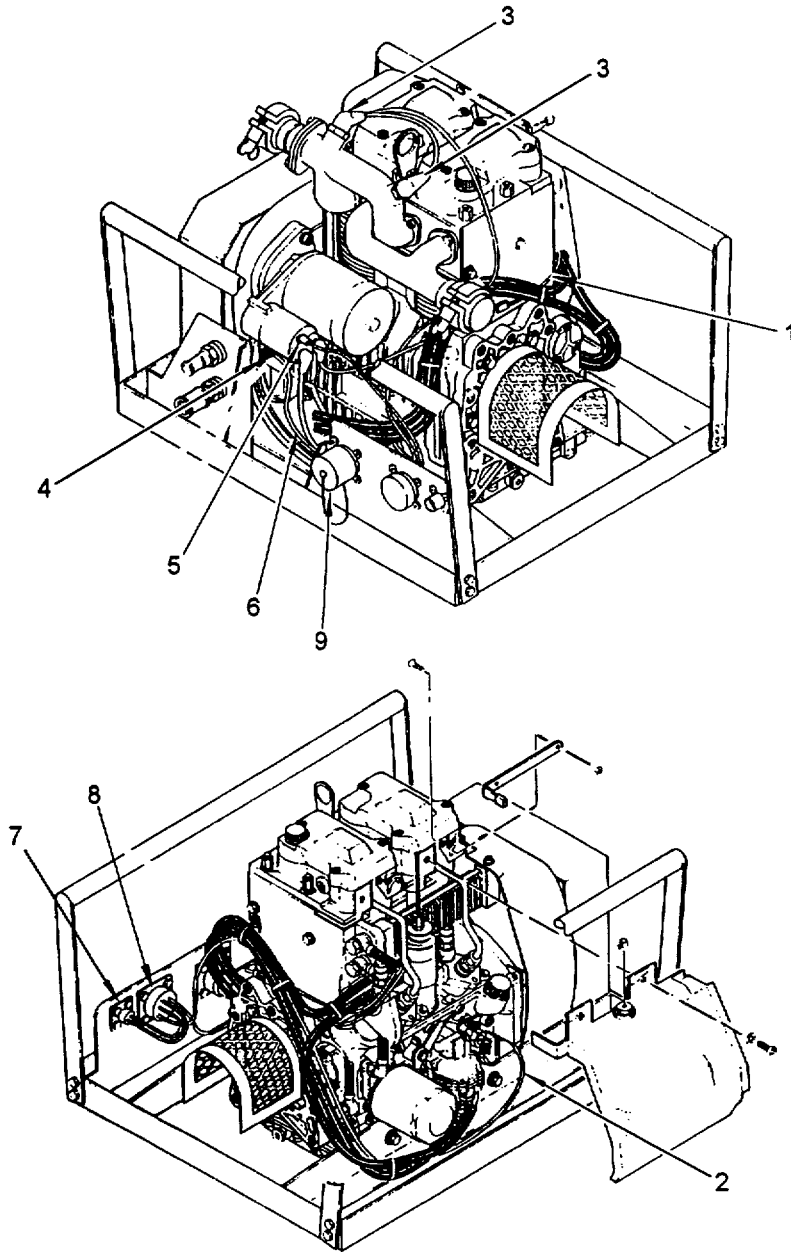

Figure 4-15. Cable Assembly W101 Replacement
4.13.4 Replace Cable Assembly W101. (Refer to figure 4-15.)